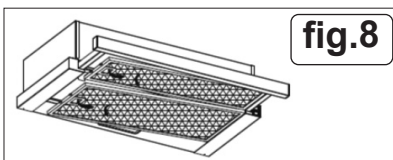

fig.8
- **GREASE MESH FILTERS (fig.8)**
INSTALLING GREASE MESH FILTERS (fig.8).